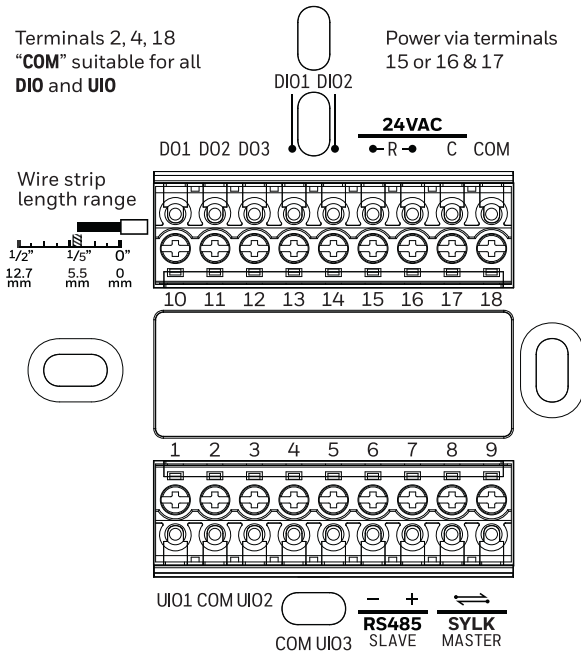

Fig. 7. Thermostat terminal assignments
1. Connect wires to the terminals. See Fig. 7 for terminal assignments and Table 2 for terminal descriptions.